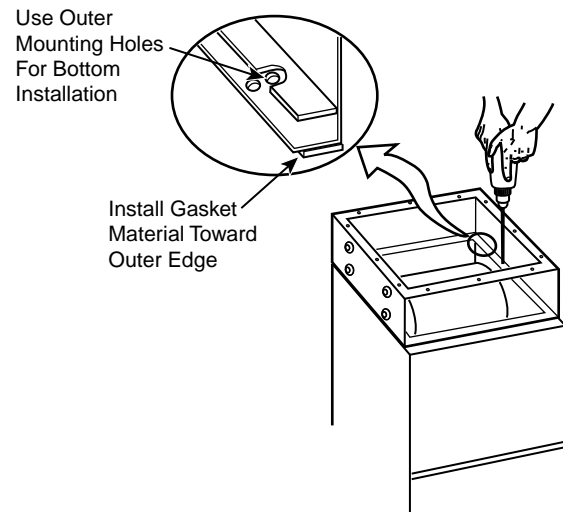

Figure 8. Bottom Installation Details
3. Install the self-adhesive gasket material onto the flange of the discharge-air side of the cabinet. This flange has double holes (see Fig. 8).